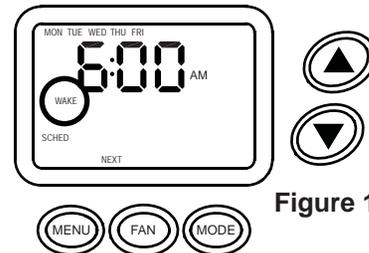

Figure 1
2. **PRESS** the FAN button to continue. Wake is the current programmable event. The display will appear as shown (Figure 1).